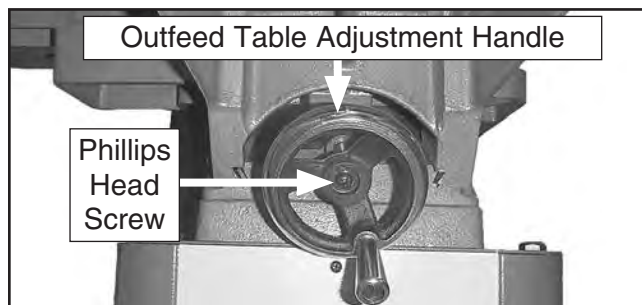

Figure 31. Outfeed adjustment wheel.
37. Attach the outfeed table adjustment handle using the pre-installed Phillips head screw (see **Figure 31**).